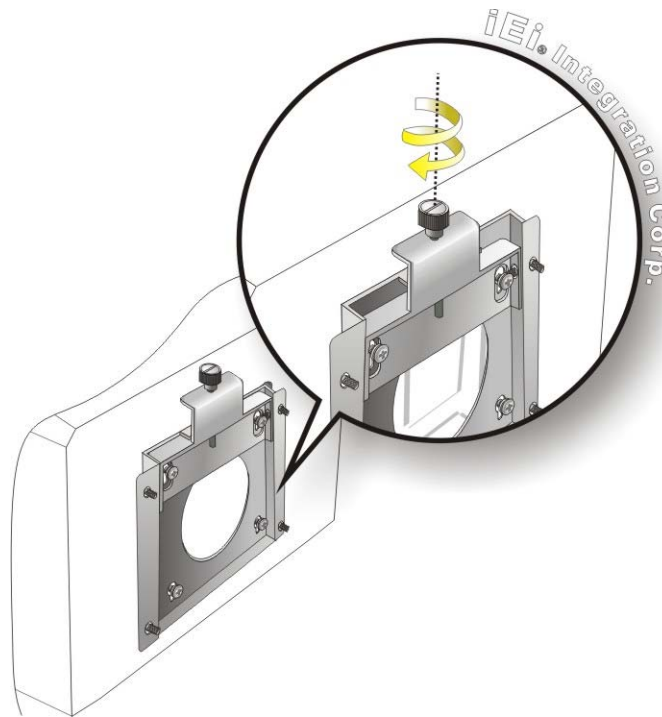

Figure 3-6: Secure the IOVU-07F-AD
Step 9: Secure the panel PC by fastening the retention screw of the wall-mounting bracket (**Figure 3-6**).